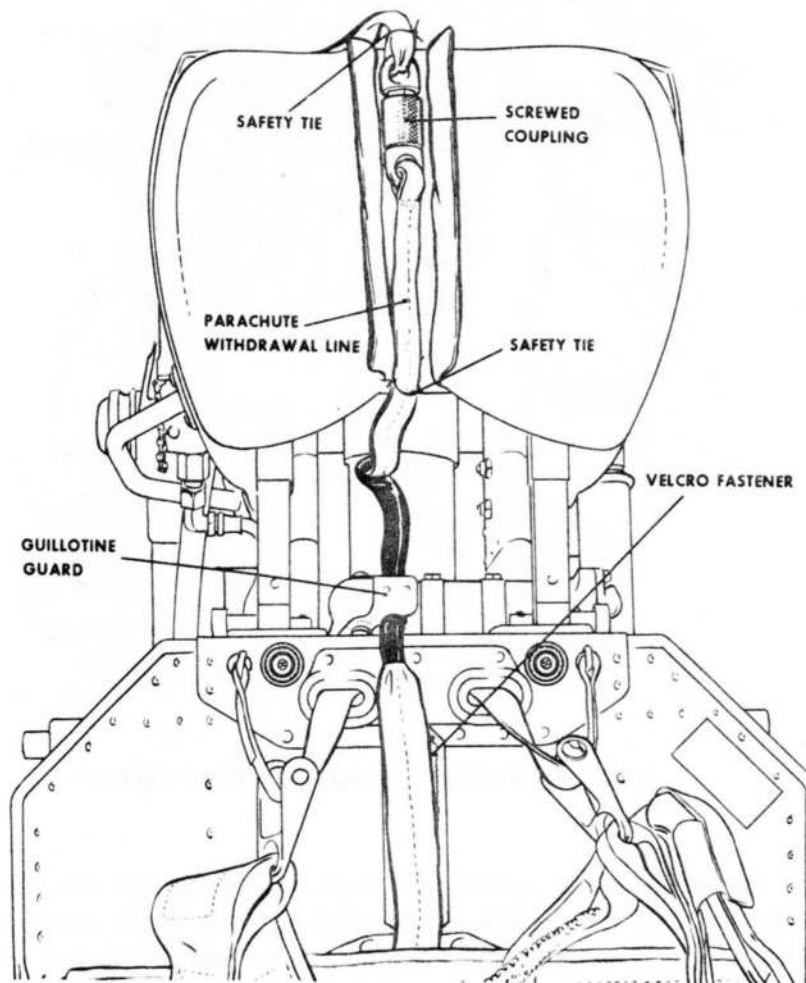

Fig 9 Routeing of parachute withdrawal line
- 2.1.2 - The parachute rip-cord handle is situated near the Koch fitting of the port lift web to deploy the parachute during a manual separation sequence. The pack opening is on the top face, closure being effected by fabric flaps secured by three cones and rip pins covered by an outer flap secured by a Velcro strip. The rip pins are attached by a short closure line to the parachute portion of the parachute withdrawal line which emerges from the centre of the outer flap and is then routed over the back of the seat pan, through a guillotine unit and up the vertical channel in the front surface of the upholstered head rest where it is attached to the seat portion of the withdrawal line by a screwed coupling. Both portions of the withdrawal line are restrained in the vertical channel by safe ties (fig 9).